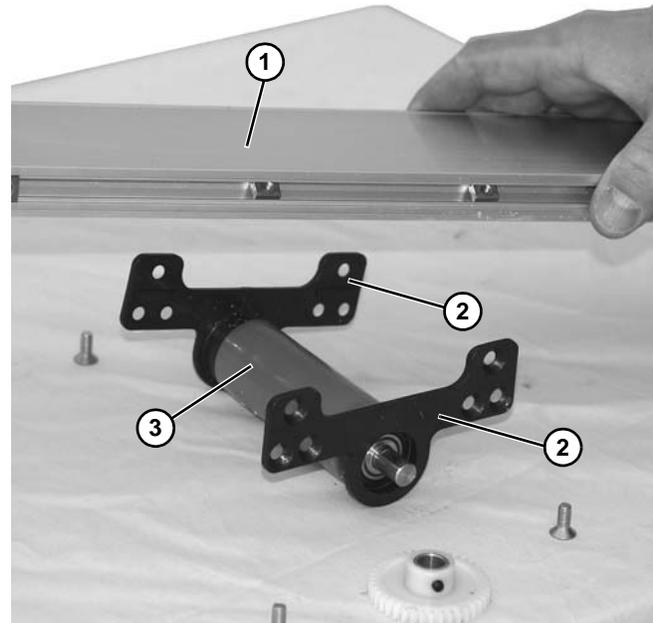

Figure 40
2. Install pinch plates (Figure 40, item 2) onto roller (Figure 40, item 3).
3. Install conveyor (Figure 40, item 1) onto pinch plate assembly.